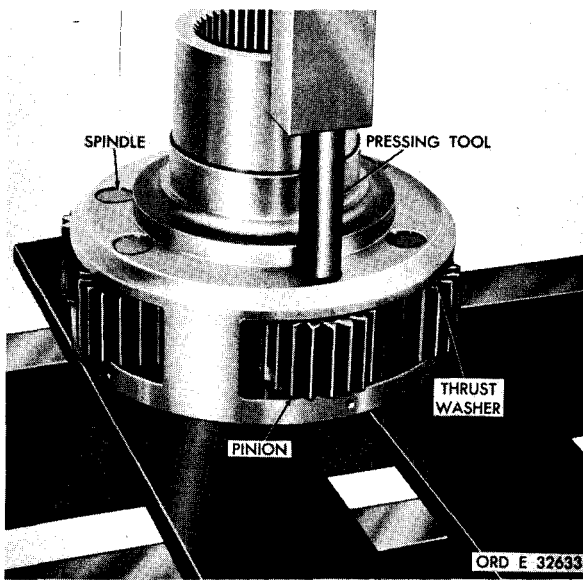

Figure 214. Removing planetary carrier spindles
*xc2* e. Position the reverse-range planetary carrier assembly in a press. Using a suitable pressing tool, remove six carrier spindles (fig. 214). Remove the pinions 14 (fig. 377, fold-out 6), thrust washers 8 and 15, spacers 9, 11 and 13, and roller bearings 10 and 12.